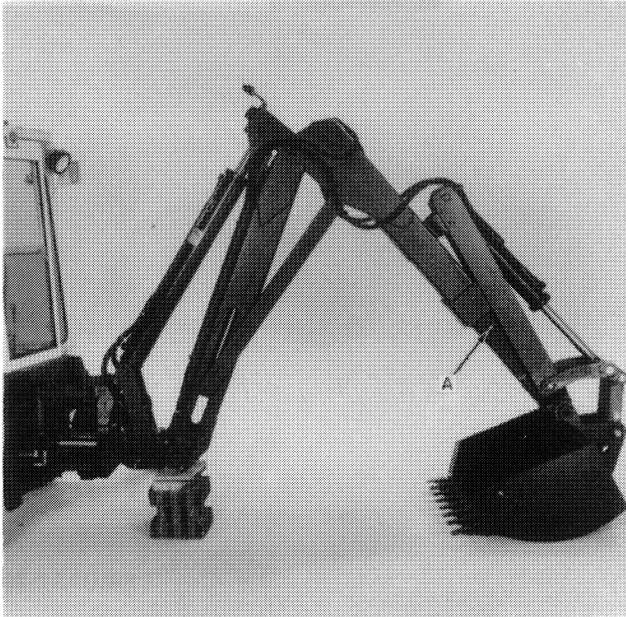

FIGURE 2-22
1. Lower the stabilizers to the ground and extend the dipper (crowd) cylinder about halfway. Extend the extendable dipper cylinder until the piston pivot pin, A, Figure 2-22, is accessible. Lower the boom until the curled bucket rests on the ground as shown in Figure 2-22.